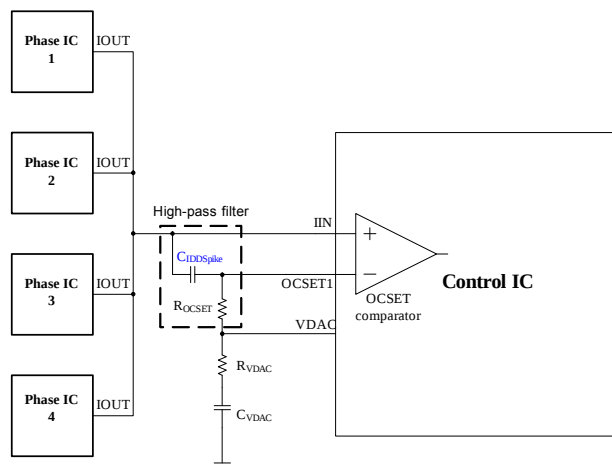

Figure 19 $C_{IDD\text{Spike}}$ and R_{OCSET} form a High Pass Filter
The IDD_Spike over current threshold can be implemented by incorporation a properly sized capacitor between the OCSET (18) and the IN1 (21) pins (see Figure 19).